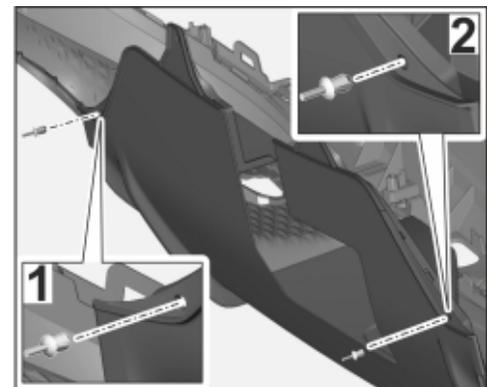

Figure 25
4.1.9 Secure the reinforcement with expansion rivets (2 ea.) (⇒ Figure 25 -1, 2-).